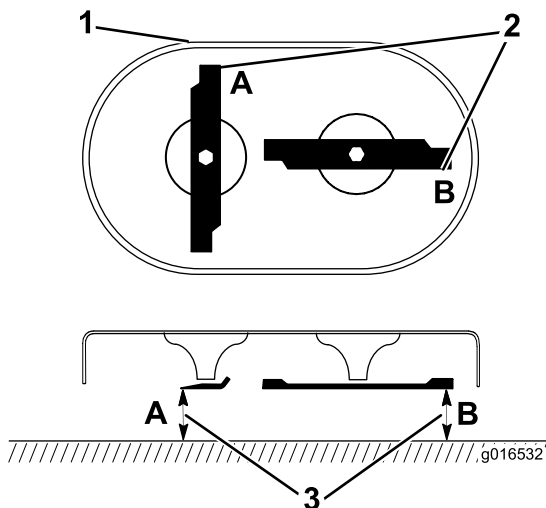

Figure 31
1. Rotate the blades until they are positioned as shown in Figure 31.